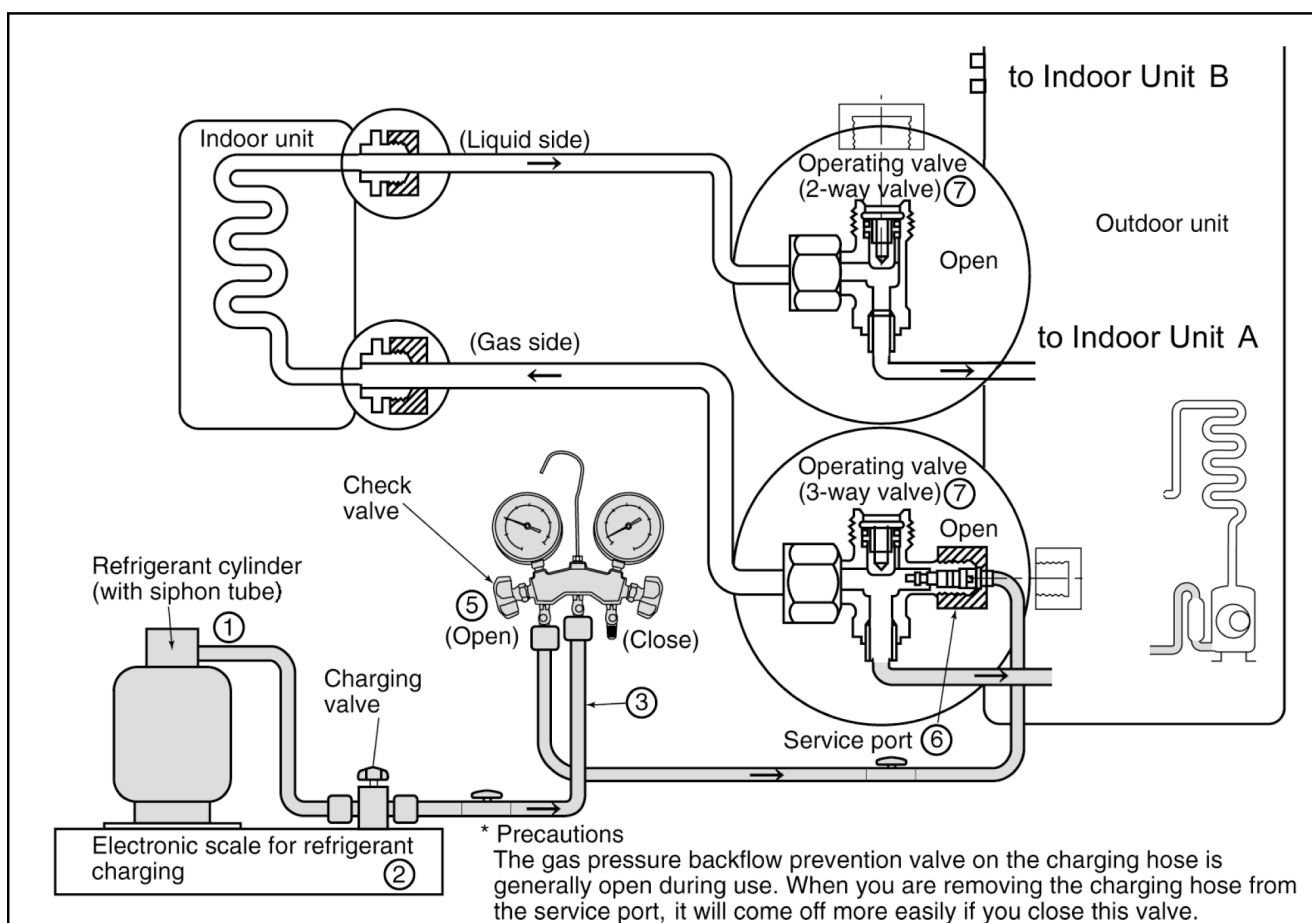

Fig. 13 Re-charging refrigerant
4. Confirm that the low pressure gauge shows a reading of  $-0.1$  MPa ( $-76$  cmHg), then fully close the handle Lo, and turn off the vacuum pump. Wait for 1-2 minutes, then check to make sure that the needle of the Low pressure gauge has not returned. See Fig. 13 for the remaining steps of this procedure.
5. Set the refrigerant cylinder onto the electronic scale, then connect the hose the cylinder and to the connection port for the electronic scale. (1)(2)